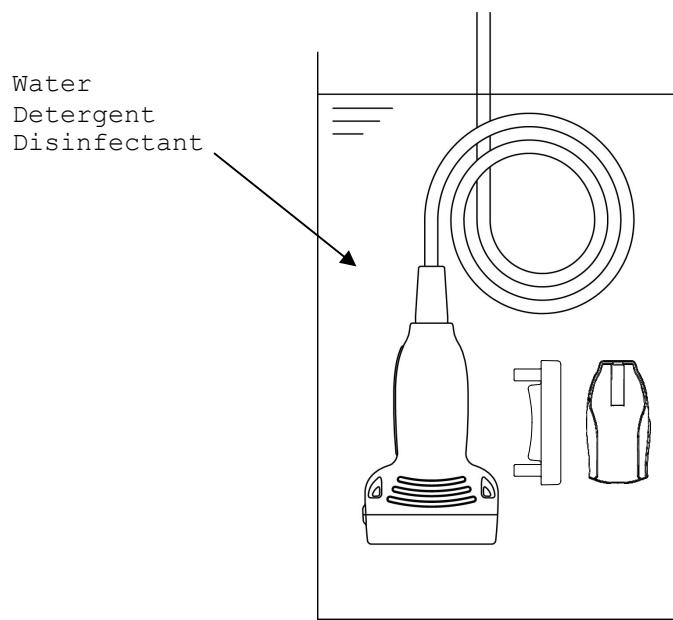

Fig. 9 Immersion of the probe, the magnetic sensor attachment and the elasto coupler
- 2) Immerse the immersible part of the probe without connector into the diluted detergent solution (see Fig. 9). Wipe the immersible part of the probe under the surface of the detergent solution with a soft cloth to remove all visible soil. Be sure that all grooves of the probe are implemented during the cleaning process.
- 5) Rinse the probe with running tap water for 1 minute. (alternatively: immerse the immersible part of the probe in a tray filled with deionized water/tap water (see Fig. 9) for 5 min.)
- 4) Rinse the attachment with running tap water for 1 minute. (alternatively: immerse it in a tray filled with deionized water/tap water (see Fig. 9) for 5 min.)
- 3) Immerse the immersible part of the probe into the disinfectant (see Fig. 9). Set a clock to insure the recommended contact time which is 5 minutes.
- 4) Rinse the immersible part of the probe with deionized water for 1 minute. (alternatively: immerse the immersible part of the probe in a tray filled with deionized water (see Fig. 9) for 5 min.)
- 2) Immerse the attachment into the disinfectant (see Fig. 9). Set a clock to insure the recommended contact time which is 5 minutes.
- 3) Rinse the attachment with deionized water for 1 minute. (alternatively: immerse it in a tray filled with deionized water (see Fig. 9) for 5 min.)